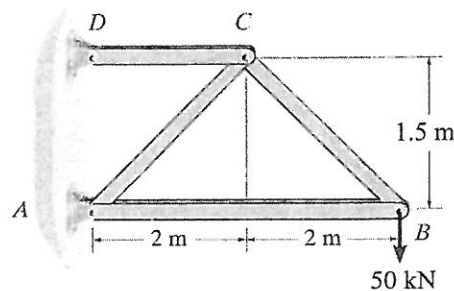

Fig. 1
1. Determine the vertical displacement of joint  $C$  of steel truss as shown in Fig. 1 by the **principle of virtual work**. Due to radiant heating, member  $AB$  is subjected to an increase in temperature of  $\Delta T = +45^\circ C$ , and member  $CD$  has been fabricated 4 mm too long. The cross section area of each member is  $A = 300 \text{ mm}^2$ , the thermal expansion coefficient is  $\alpha_{st} = 12 \times 10^{-6} / ^\circ C$ , and Young's modulus is  $E_{st} = 200 \text{ GPa}$ . (20%)